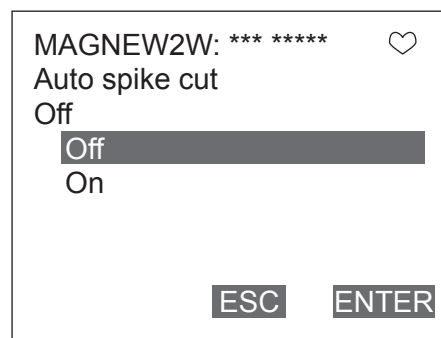

Figure 7-22
Figure 7-22 will then be displayed.
2. Once the display as shown in Figure 7-22 appears, move the arrow key up or down to select On or OFF. After making a selection, press F4 (ENTER). If F3 (ESC) is pressed here, the selection will be canceled and the display will return to the Noise immunity menu.